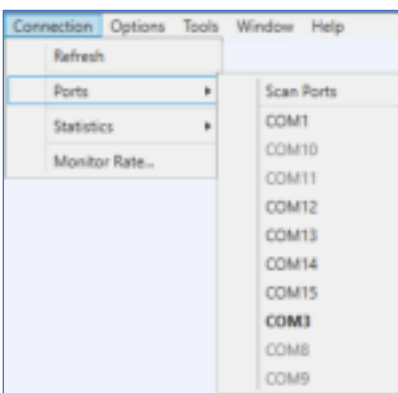

Figure 98: Connection Menu, Ports Drop Down Menu
- Ports - Use the drop down menu to scan or select a communications port, as shown in Figure 98.
- If it is bold, it indicates RA hardware has responded to a version query indicating RA hardware is attached to the port, as shown in Figure 98.